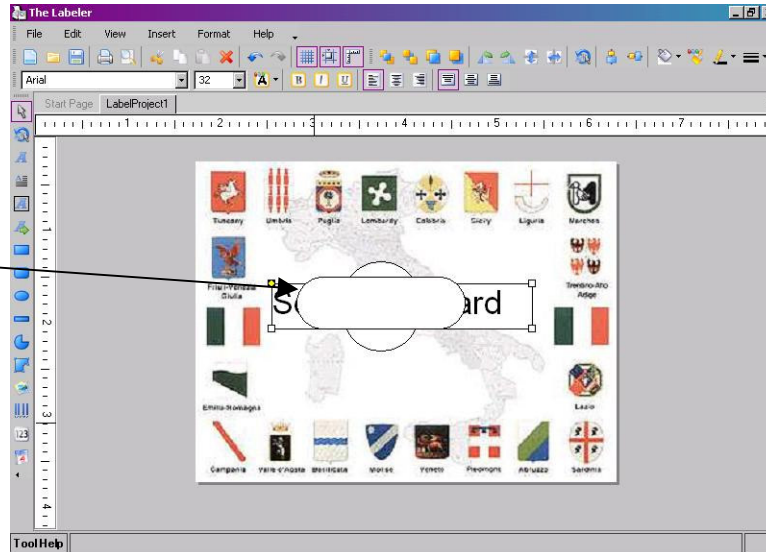

Figure 4.3.9.1: Select the object to send backward
2. Select the Bring Forward tool from the formatting tool bar or from the format menu (see Figure 4.3.9.2).